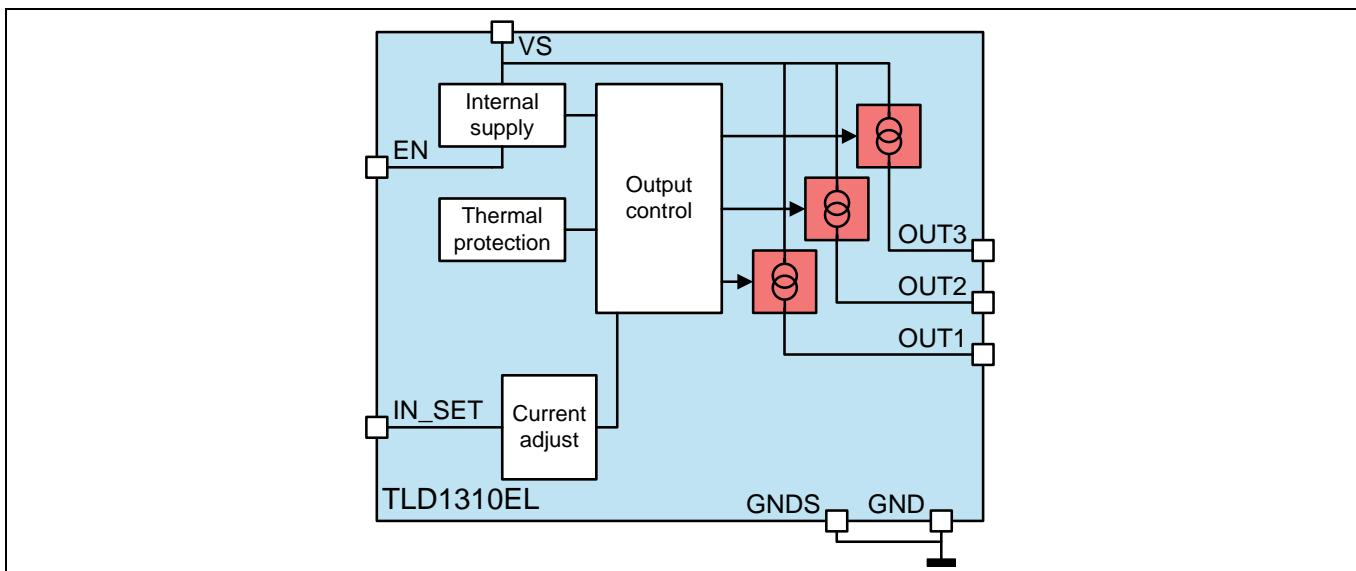

Figure 2 Block Diagram of LITIX™ Basic device (TLD1310EL)
Figure 2 shows the block diagram of the LITIX™ Basic family member TLD1310EL. This device has 1 input (IN\_SET), 3 outputs (OUT1, OUT2 and OUT3), enable input (EN), supply (VS) and ground (GND) pins. The exposed pad of the package should also be connected to ground in the application.